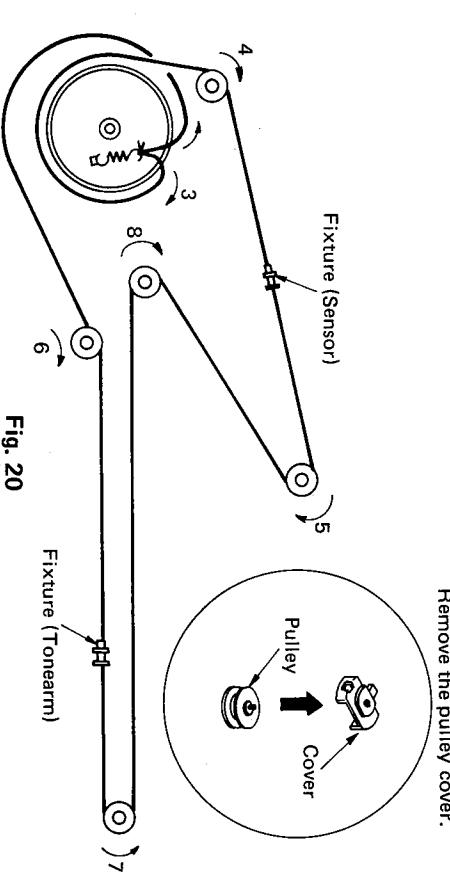

Fig. 18
2. Remove the lead wire holder. (See Fig. 18)
3. Remove the C-ring of the arm drive wheel and remove the drive wheel. (See Fig. 18 : ⑩)